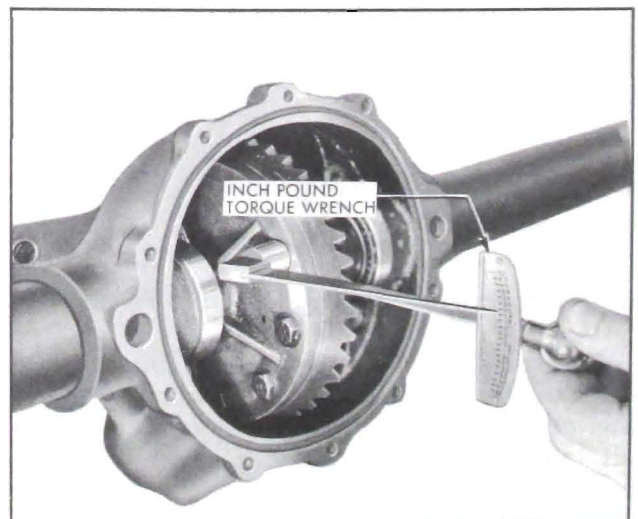

Figure 6-20—Checking Differential Bearing Preload
4. Rotate differential case several complete turns to seat bearings. Check bearing preload using an inch pound torque wrench connected at ring gear attaching bolt. With wrench projecting approximately straight out, bearing preload should read 20 to 30 in. lbs. with new bearings, or 10 to 20 in. lbs. with reused bearings. See Figure 6-20. If preload is not according to these specifications, increase shim thickness on each side .002" for each added 10 in. lbs. preload desired, or decrease shim thickness